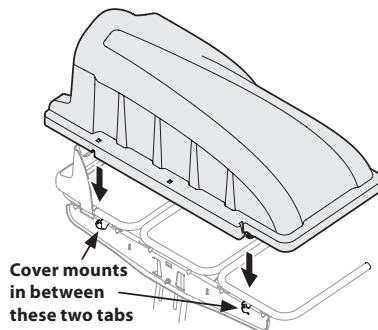

Figure 10
5. Install the bagger cover onto the hanger assembly, as seen in Figure 10. The plastic cover goes inside of the two mounting tabs.